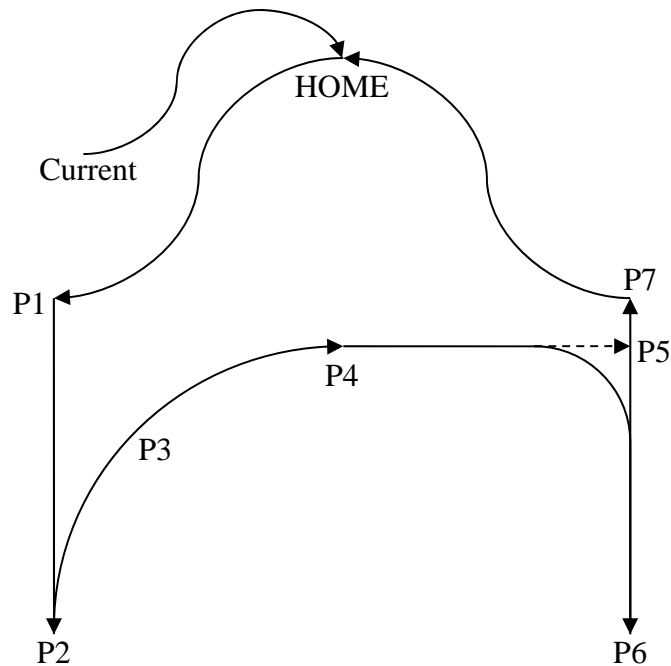

Figure 3[c]
- [c] **Develop a program for Kuka robot to pick and place an object following the path with velocity 0.8 m/s as shown in Figure 3[c] without using SPLINE motion. The tool center point starts from current position and ends at the HOME position. Open the gripper at point P1. Pick the object at point P2 and place the object at point P6. Output 17 and 18 are used for opening and closing the gripper respectively.**